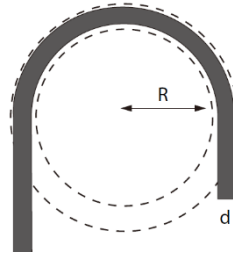

Figure 9 Minimum Bend Radius
- When wiring modules, always keep in mind the minimum bend radius (see Figure 9). This minimum bend radius is the permissible curvature the cable can be bent around. Depending on the type of cable, a specific coefficient (Cable multiplier), must be applied. For our DC cables this parameter is 4.